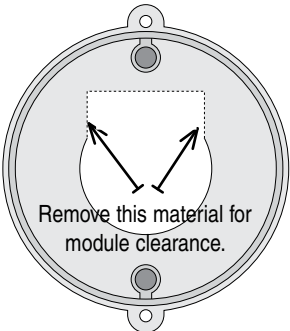

Figure 2
8. Comp 9000 Distributors Only: Modify cap adapter to clear Ignitor (See Figure 2).